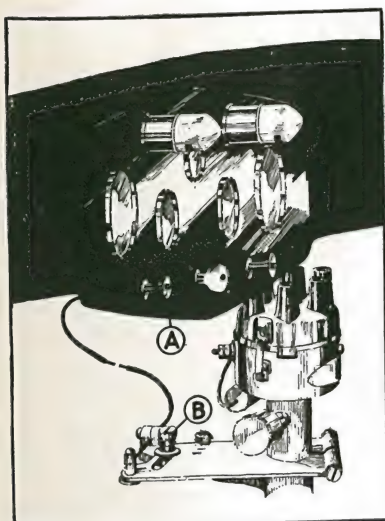

Fig. 88. Spark Advanced
2. Fully advance the spark, as shown in Fig. 88, by making sure that control knob (A) on the instrument board is pushed all the way in, and that the stop screw (B) is at the extreme end of the slot in the timing clamp of the distributor.